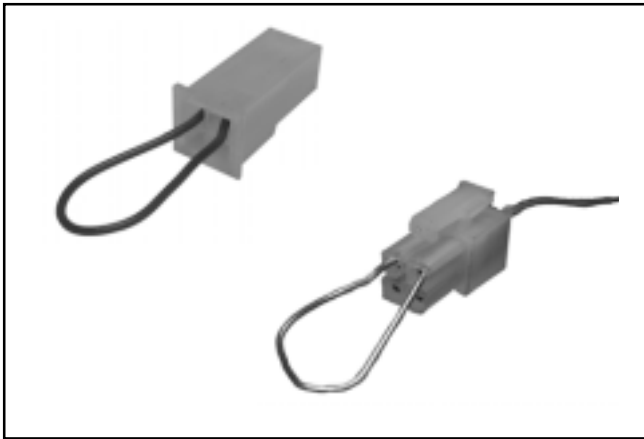

Figure 5B-6. Service Connector Plug.
3. Locate the service connector plug in the wiring harness. To initiate the TPS auto-learn function, connect a jumper wire from the TPS initialization pin #24 (violet wire) to the battery voltage pin (red wire), or use a jumper connector plug (SPX Part No. KO3217-9). See Figure 5B-6. If using the PC-based diagnostic tool and software (Kohler Part No. **25 761 23-S**), go to “Special Tests” and follow the prompts to complete.